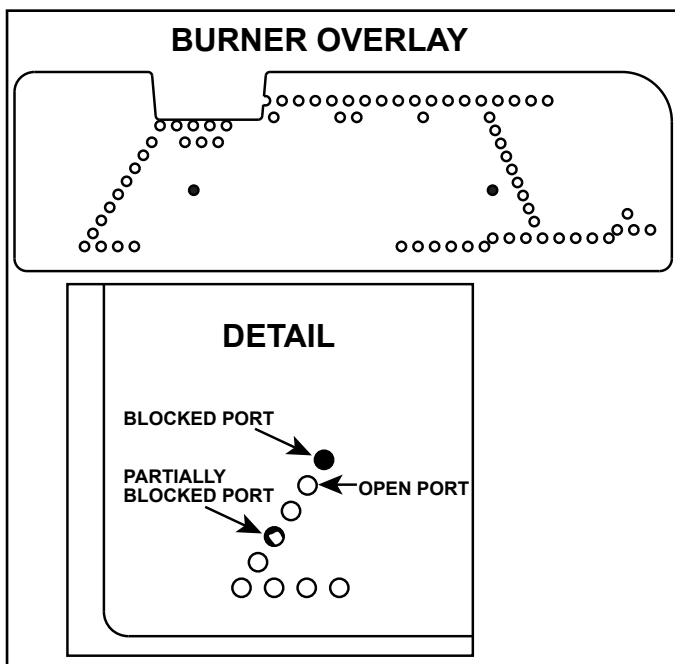

Figure 11.24 Check Burner Ports
2. Remove the burner overlay from the packaging. Check to ensure all ports are free from any obstructions. See Figure 11.24.